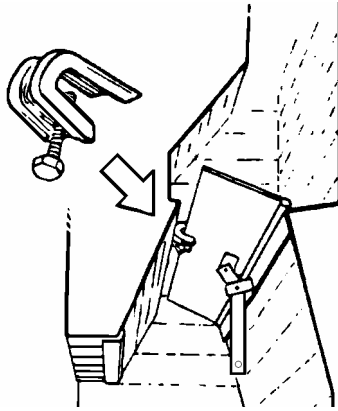

FIGURE 1
The damper clamp, must be installed, in a manner, which will maintain the minimum permanent damper vent opening at all times. SEE FIGURE 1. See the Decorative Hearth System Specifications on page 3.
- 2- Place the fireplace damper in the fully open position, and install the damper clamp over the lip of the damper (**The damper must be in a fully open position, any time that this appliance is in operation**). Using a 3/8" nut driver or socket, and turning in a clockwise direction, tighten the damper clamp bolt until the clamp is secure. The damper clamp must be in place to maintain the minimum permanent vent opening. See the chart " MINIMUM FIREPLACE DIMENSIONS " on page 3, for correct venting. (SEE FIGURE 1, page 3)